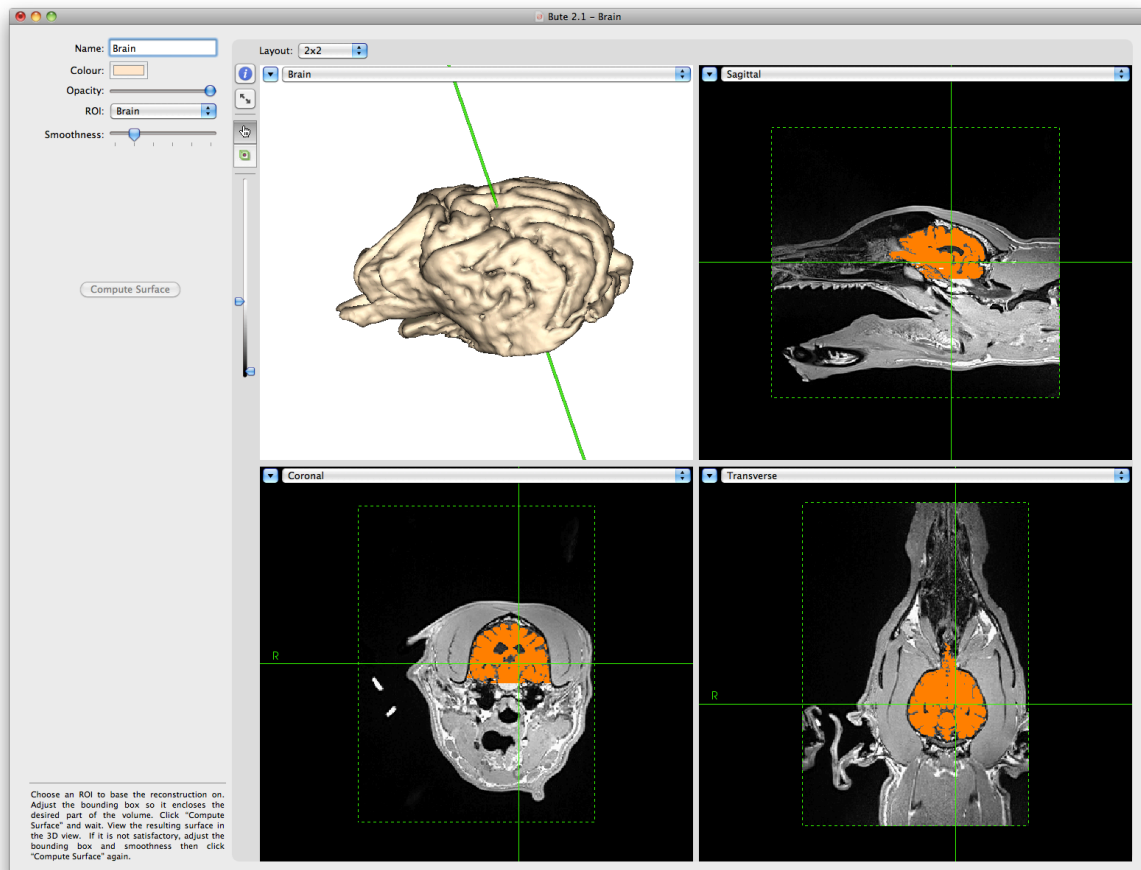
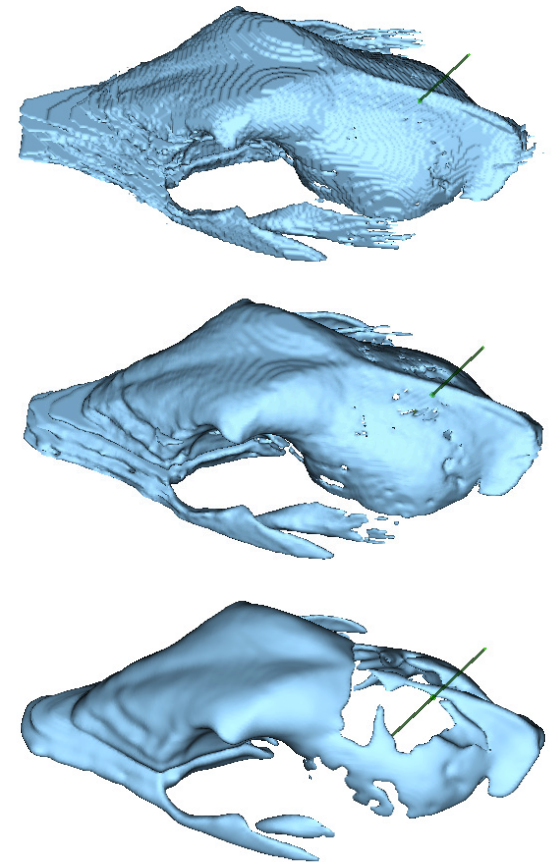

Fig. 10-4
Fig. 10-5
When reconstructing the skull, pay special attention to the smoothing value used. If you set the smoothing to none (see top of Fig. 10-4), the results will look rough as the edges of the voxels will be taken "literally" yielding a characteristic stairway pattern. When applying smoothing, the stair pattern is removed, but areas in the source ROI that were thin (commonly found in the temporal area of the skull ROI) were removed in the smoothing process. Try to find a middle ground that yields a reasonable looking skull with a minimum of thin area removal (middle of Fig. 10-5).
- If you previously loaded an fMRI overlay, you will also see it overlaid. Change the depth again to see where the peak occurs (see Fig. 10-5).